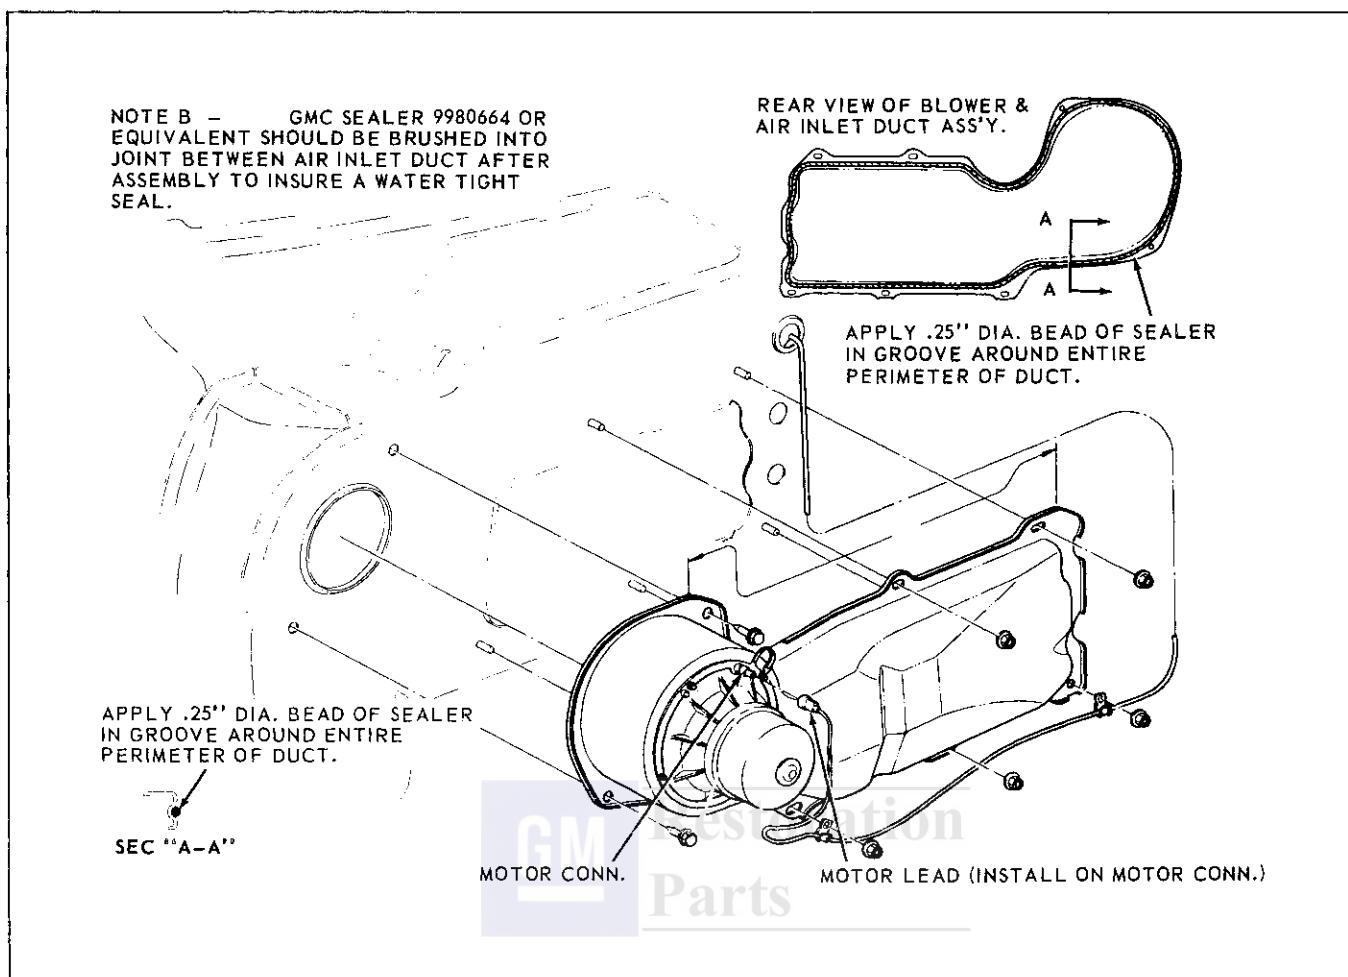

Fig. 1-7 Engine Compartment Details—Pontiac
1. Remove hood hinge to fender retaining bolts (Fig. 1-7).
- NOTE: If removing duct drill two (2) one inch holes in fender skirt for removal of outboard duct retaining screws.*
PONTIAC (Fig. 1-7)
(Figs. 1-7, 1-8 and 1-9)**